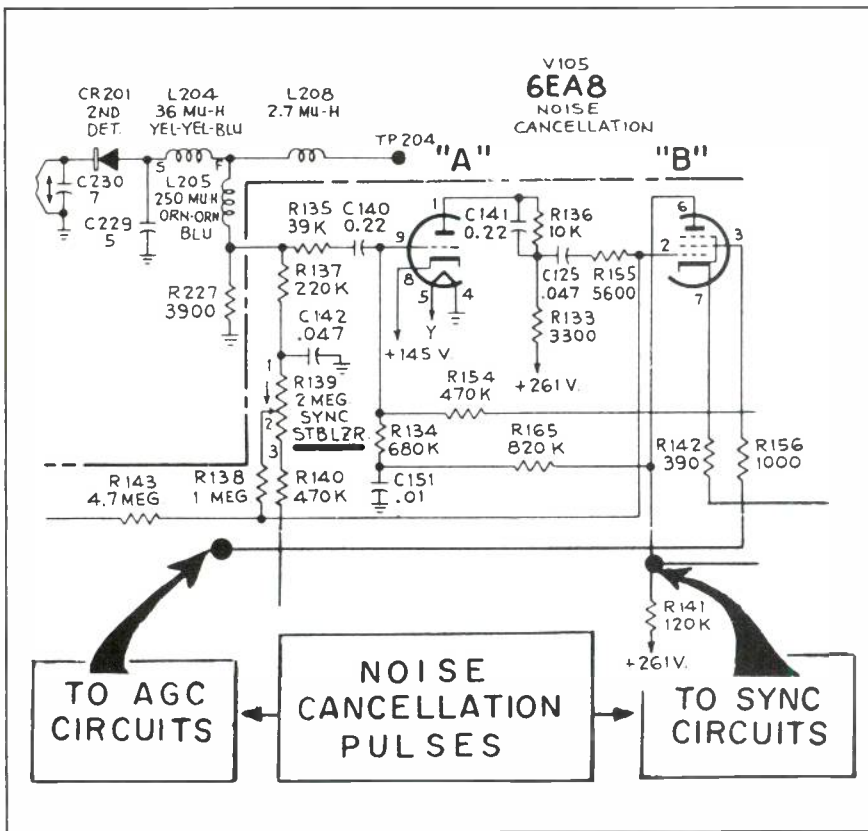

Figure 5: partial schematic—noise cancellation circuitry, KCS129 chassis.
**Circuit Operation**—Video signal information is taken from the output of the second detector and applied to the grid of V105A, the first tube in the noise cancellation circuit (see Figure 5). The tips of sync are negative at this point, and V105A is biased so that all but the tips of the sync pulses are driven into saturation. This provides the desired clipping action. The remaining signals (noise pulses and the tips of sync) are coupled from the plate of V105A to the grid of V105B (the second tube in the noise cancellation circuit). V105B is normally heavily biased so that only the noise pulses above the level of the tips of sync are amplified and made available for noise cancellation purposes.
It is interesting to note that the bias in the noise cancellation circuitry is applied in a way that provides for automatic control of the amplitude of the pulses. When weak signals are received, the bias in the noise cancellation circuitry is decreased, which provides greater amplification of noise pulse cancellation signals. This is due to the increase in positive voltage developed at the cathode of the first picture if amplifier and the decrease in negative voltage formed in the output of the sound detector during weak signal reception. Both voltages are used in the development of the bias voltage on V105B (see Figure 5). When strong signals are received, the opposite action takes place. This increases the bias